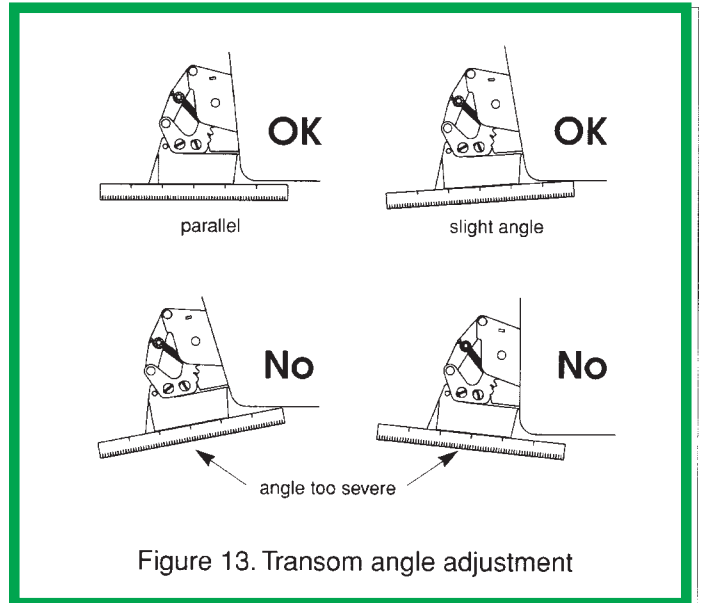

Figure 13. Transom angle adjustment
3. Using a straight edge, adjust the angle of the transducer on the bracket. Sight the underside of the transducer relative to the underside of the hull (see Figure 13). Adjust the transducer on the bracket, so it is parallel to the bottom of the hull or at a slight angle. For best results set the stern of the transducer 1–3 mm (1/16–1/8") below the bow of the transducer and tighten the screws.